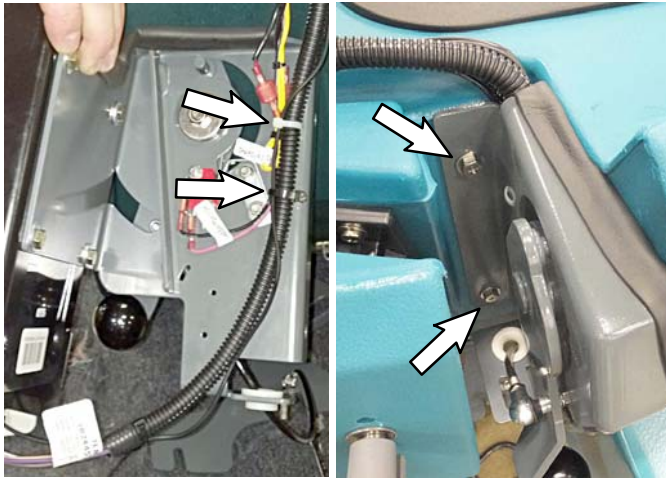

FIG. 9
9. Route the telemetry harness and antenna cable as shown and secure harness with cable-ties (6) (FIG. 9).
10. Install new bracket assembly to machine using existing hardware (FIG. 9).